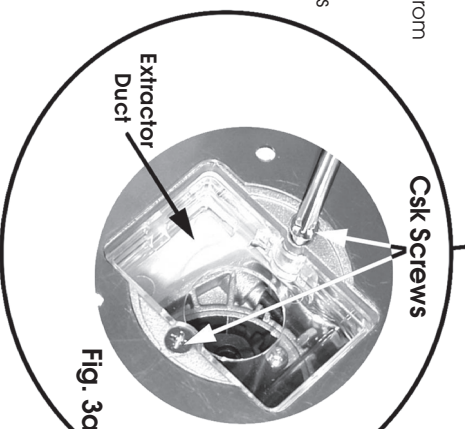

Fig. 3a
2. Secure in position with two screws and nuts (items 35 & 66). (see Fig. 3a viewed from underneath base).